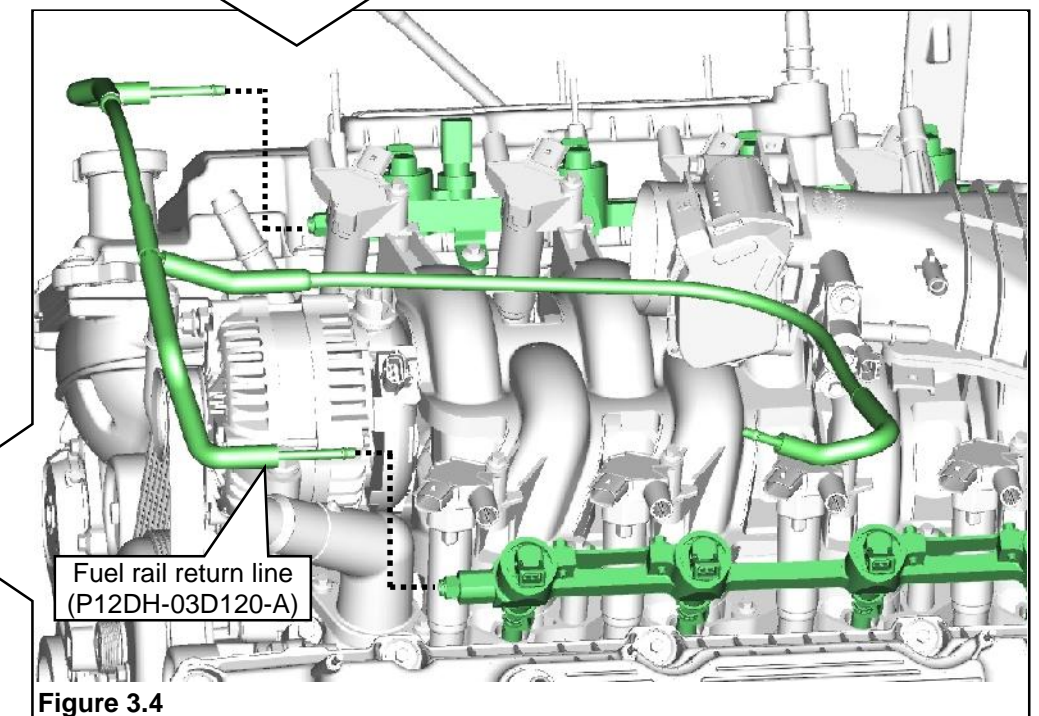

Figure 3.4
7. Orient and install the fuel rail return line onto the forward end of the fuel rails. Push the line ends into the quick-connect fitting on each rail until secure. Pull on the line ends to make sure they are correctly engaged with the fittings. **Note:** The unconnected end of the fuel rail return line is connected after the FRPCM is installed. **Figure 3.4.**